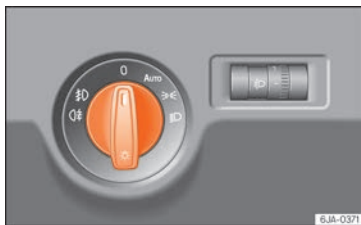

Fig. 129 Instrument panel: light panel.
The location of the controls of **right-hand drive** cars differs slightly from the location shown here » **Fig. 129** » page 121. However, the symbols indicating the respective positions of the controls remain the same.
– Turn the light switch »» **Fig. 129** to position **!**.
– Turn the light switch »» **Fig. 129** to position **0**.
Daytime running lights are signalling devices for improving road safety. The lights are built into the headlights and come on each time the ignition is turned on if the light switch is in position 0 or AUTO >>> Fig. 129. It is automatically switched off when the side lights are turned on.